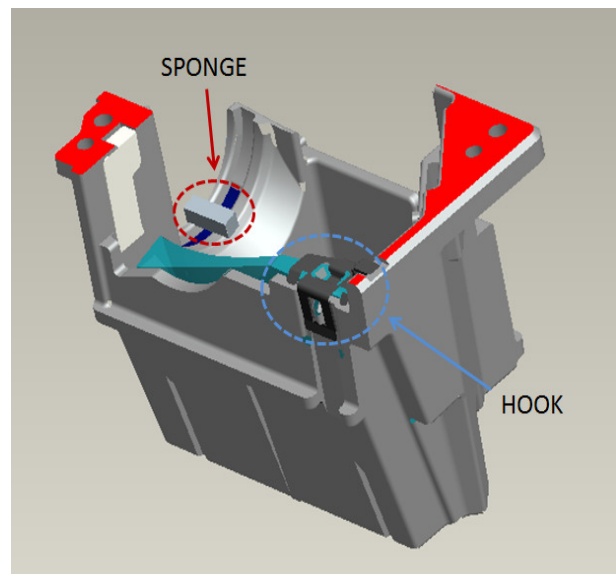

Fig. 3-10
- (5) To check and make sure Clip CM Up to hook the Sub HSG Well (Fig. 3-10).
- (6) Paste "Sponge tube AL" on cannellure of" HSG ILL" (Fig. 3-10).